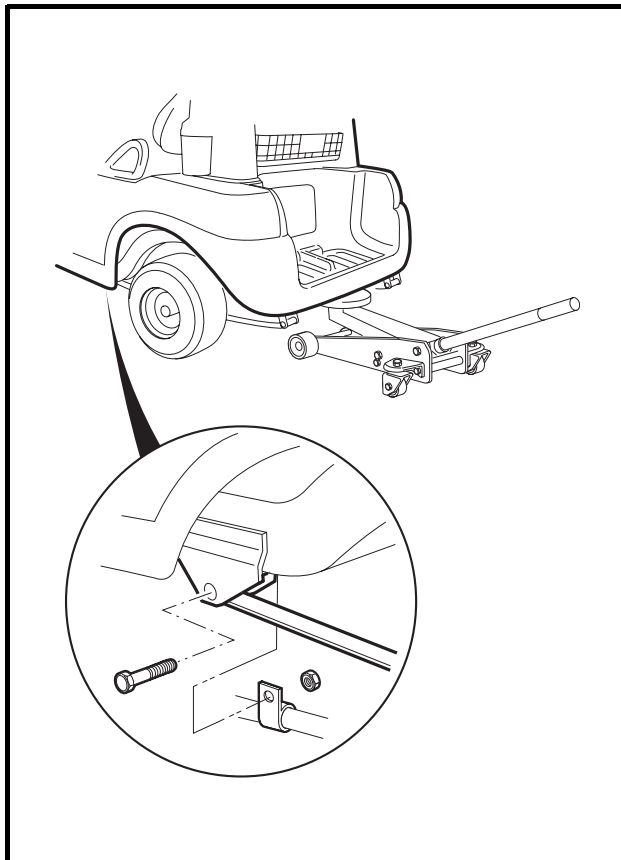

Figure 16-42 Leaf Springs
14. Position the floor jack under the rear bumper and raise the jack high enough to support the vehicle (**Figure 16-42, Page 16-18**). Make sure the vehicle is stable on the jack, then remove the jack stands.
15. After the jack stands are removed, lower the vehicle to approximately its normal height. Position the leaf springs in the front spring mounts and install the bolts and lock nuts. Ensure the brackets on the brake cables are placed over the bolts before the lock nuts are installed. Tighten lock nuts to 15 ft-lb (20.3 N·m) (**Figure 16-42, Page 16-18**).